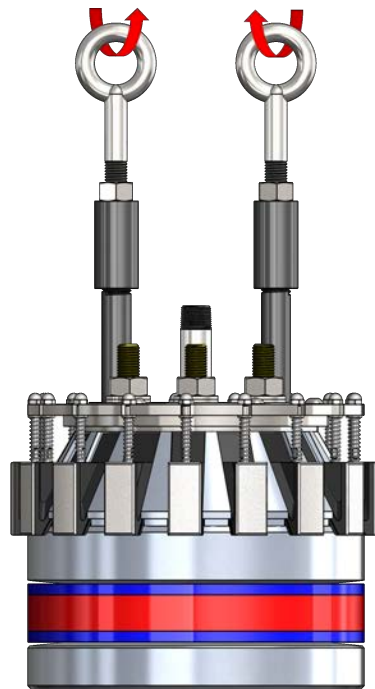

Figure 25: Properly Installed Lifting Eyes for Vertical Lifting
- While holding the **Vertical Lifting Eyebolt(30)** in the correct orientation, snug the **Eyebolt Nut(31)** against the top of the **Lifting Standoffs(26)** and turn the **Eyebolt Nut(31)** an additional $\frac{1}{2}$ turn. Do the same to the other **Vertical Lifting Eyebolt(30)** and its nut. See Figure 25 for properly installed eyebolt illustration.